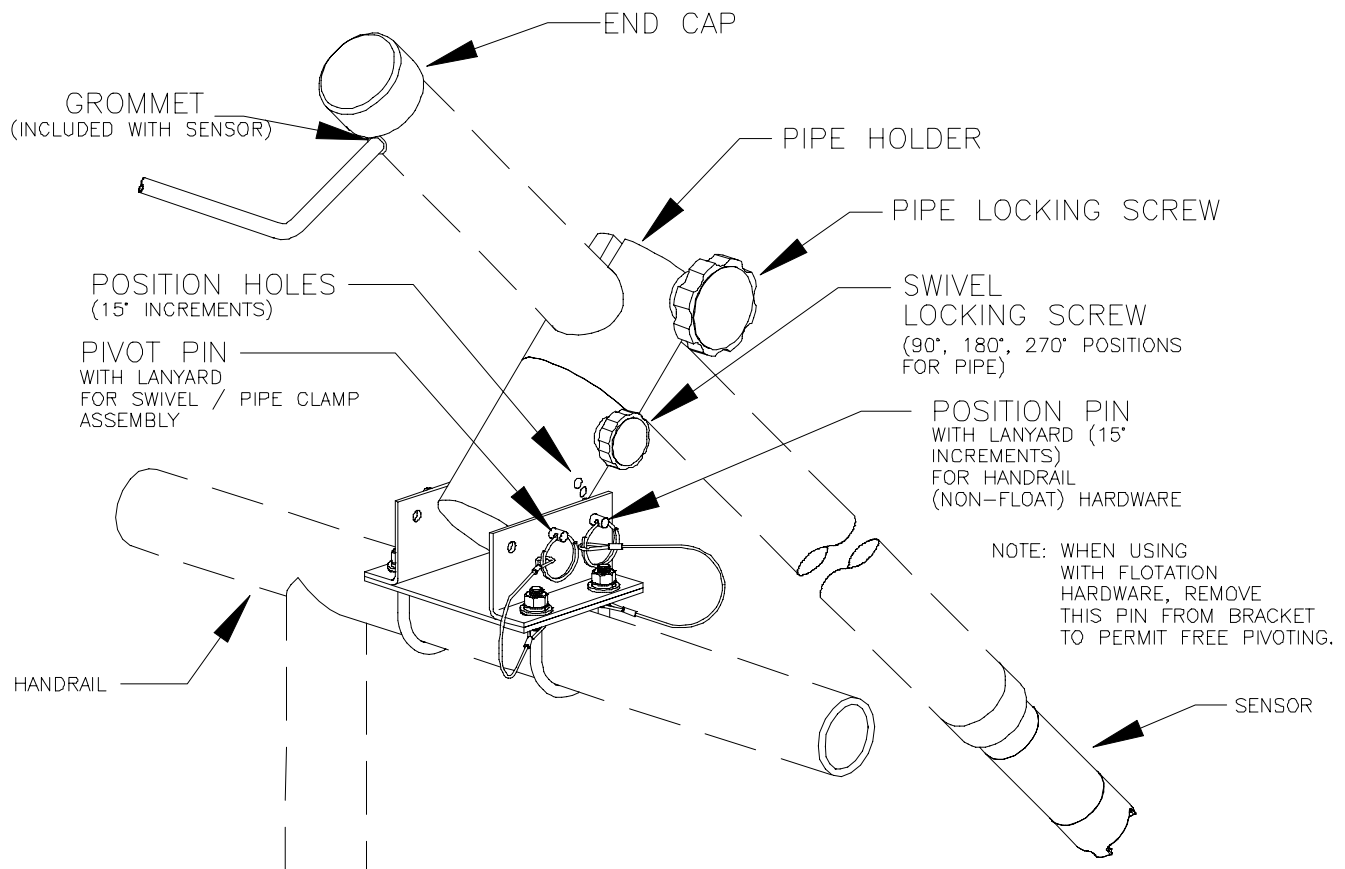

FIGURE 2-7
1. Mount the swivel/pivot/pipe clamp assembly to a handrail or horizontal pipe in a suitable location where the sensor is to be installed. Refer to Figure 2-7 for clamp assembly details.